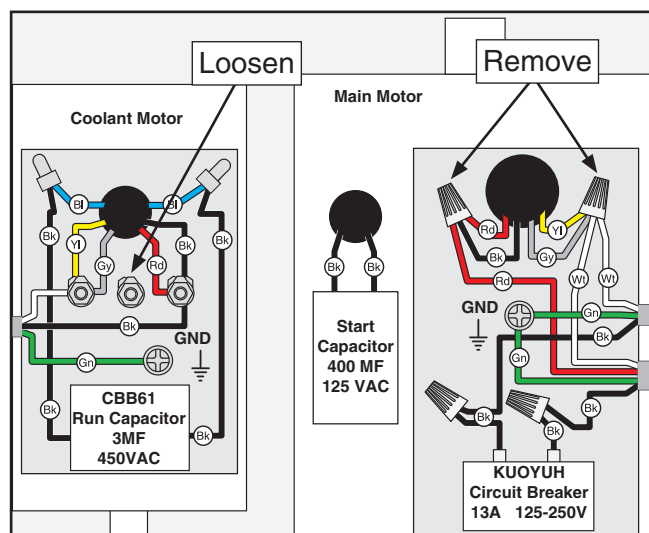

Figure 4. Location of components to be removed and loosened.
3. Open the main and coolant motor junction boxes, remove the wire nuts on the main motor, and loosen the terminal nut on the coolant motor, as indicated in **Figure 4**.